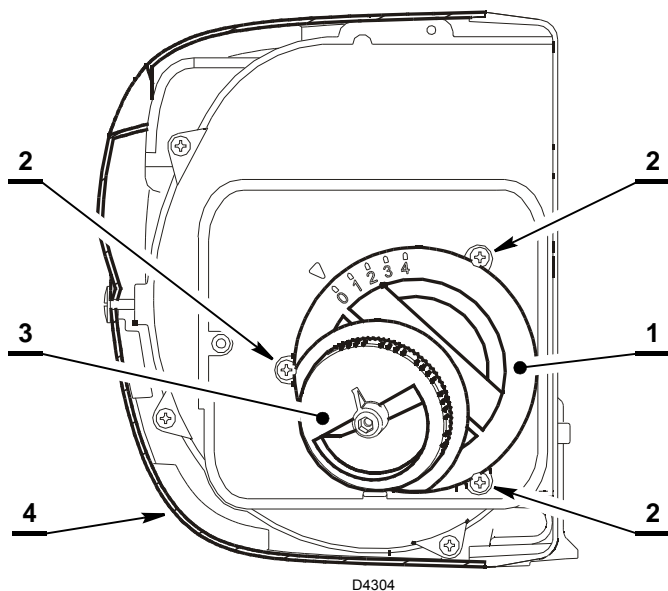

Fig. 17
Depending on burner output, regulate air by rotating the feeder 1) (Fig. 17) and then the knob 3).
- Remove the hood from the burner 1) (Fig. 17), loosen the four screws 2);
- Turn the knob 3) (Fig. 17). Clockwise reduces the airflow section and increases CO₂ values: anticlockwise does the opposite.
The air inlet must not be blocked in the knob area 3) (Fig. 17), or the aspiration grid area 10) (Fig. 3), except by the cover.
You must not probe inside the knob intake opening 3) (Fig. 17) with your fingers or any sort of tool.